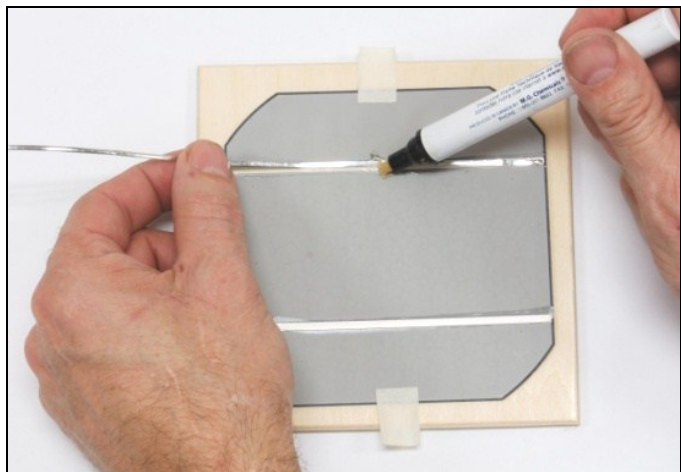

Figure 18
- ✓ Next, apply a coat of flux to the top of the tabbing wire itself, as shown in Figure 18. Make sure that the flux is flowing well. Re-prime the flux pen by depressing the tip as necessary.